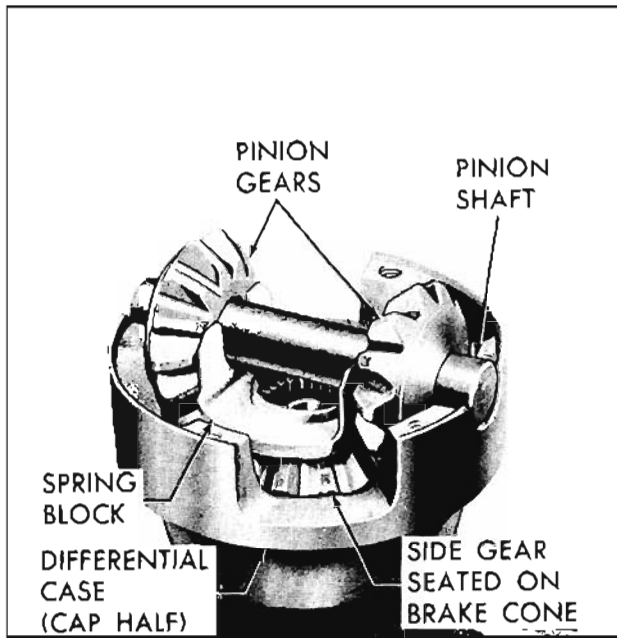

Fig. 10-136 Installing Thrust Block
4. Place one thrust block in position over gear face in alignment with pinion gear shaft grooves. Install thrust block, pinion shaft, pinion gears and thrust washers into cap half of differential case in such a manner that pinion shaft retaining dowel can be inserted through pinion gear shaft into differential case. This prevents the pinion shaft from sliding out and causing damage to the carrier assembly. (Fig. 10-136)